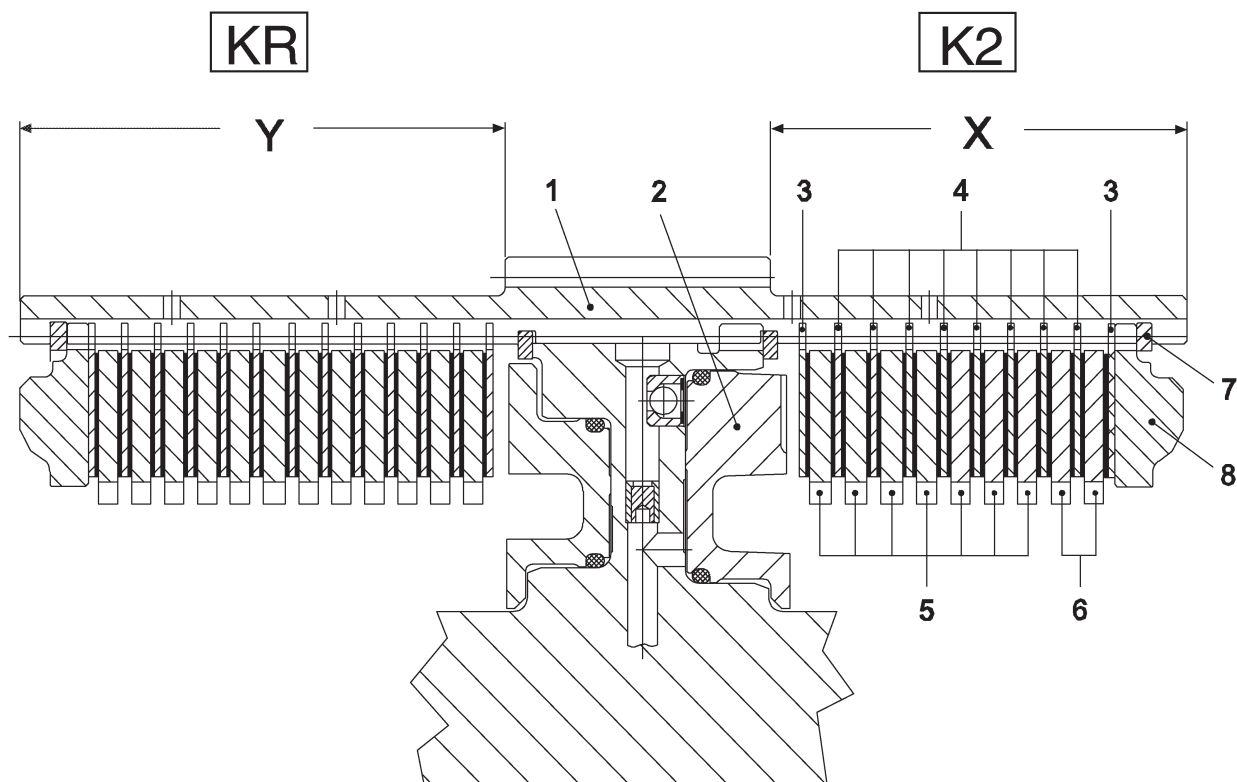

Figure 178
(1) Install disc set according to sketch or table (figure 178).